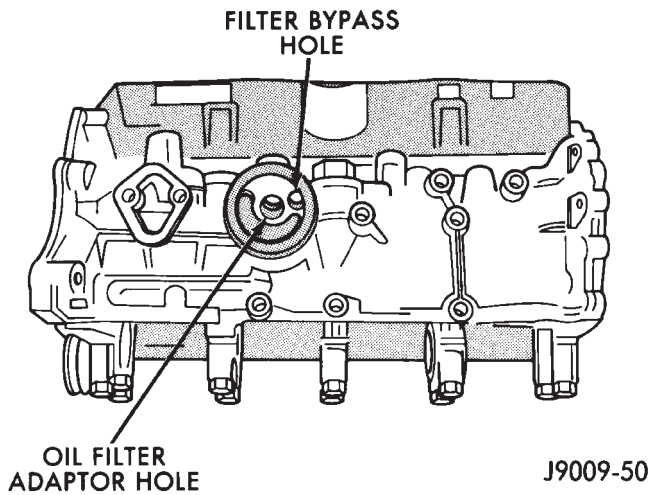

Fig. 9 Oil Filter Adaptor Hole
- The galley at the oil filter adaptor hole, the filter bypass hole (Fig. 9).